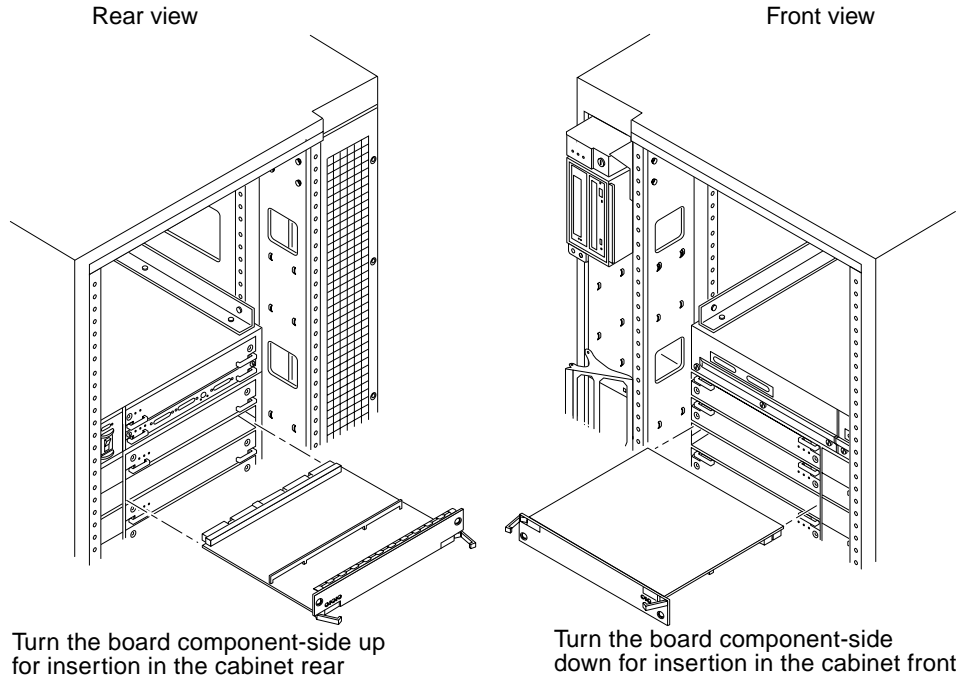

FIGURE 5-7 Board Replacement
For boards being placed in the rear of the system, ensure that the component side is up. If the boards are placed in the front of the system, ensure that the component side is down (FIGURE 5-7).
1. Carefully insert the board (component side down if in front; component side up if in the rear) in the proper slot in the card cage, ensuring that the board does not slip out of the left and right card guides (FIGURE 5-7).